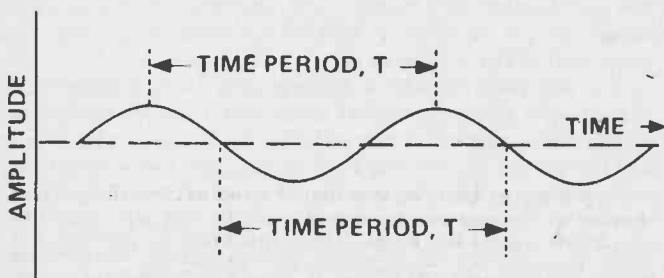

Fig. 1. Time period. This can be measured between neighbouring peaks or from one zero-crossing to the next-but-one, as shown.
A radiated wave of this type is a travelling wave. If we intercept it with an aerial attached to a sensitive oscilloscope what we would see on the screen (Fig. 1) would be the familiar sine wave trace, so that we could measure the time between peaks of the wave. This time between peaks is called the period or periodic time (T) of the wave, and is the quantity we measure by making use of the calibrated time base of the oscilloscope. This time period is related to the frequency of the wave: $f = 1/T$ with T in μS , frequency f is in MHz. For example: if the period is $0.4 \mu\text{S}$, then the frequency is $1/0.4 = 2.5 \text{ MHz}$.